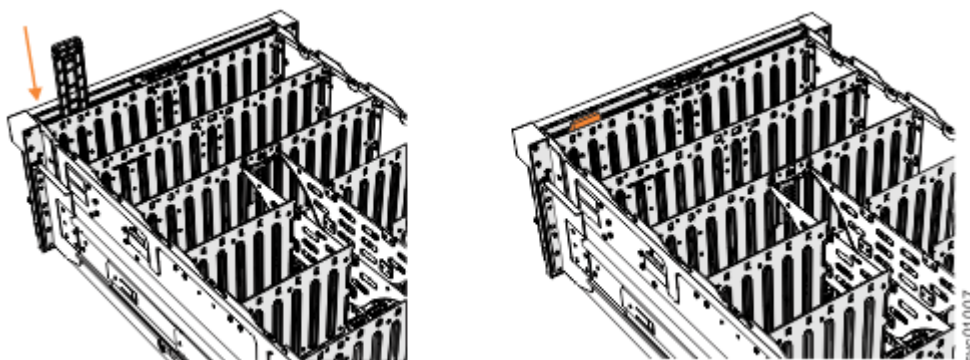

Figure 127. Installing the display panel assembly
6. Carefully align the display panel assembly in the slot at the front of the expansion enclosure, as shown in Figure 127 on page 183.